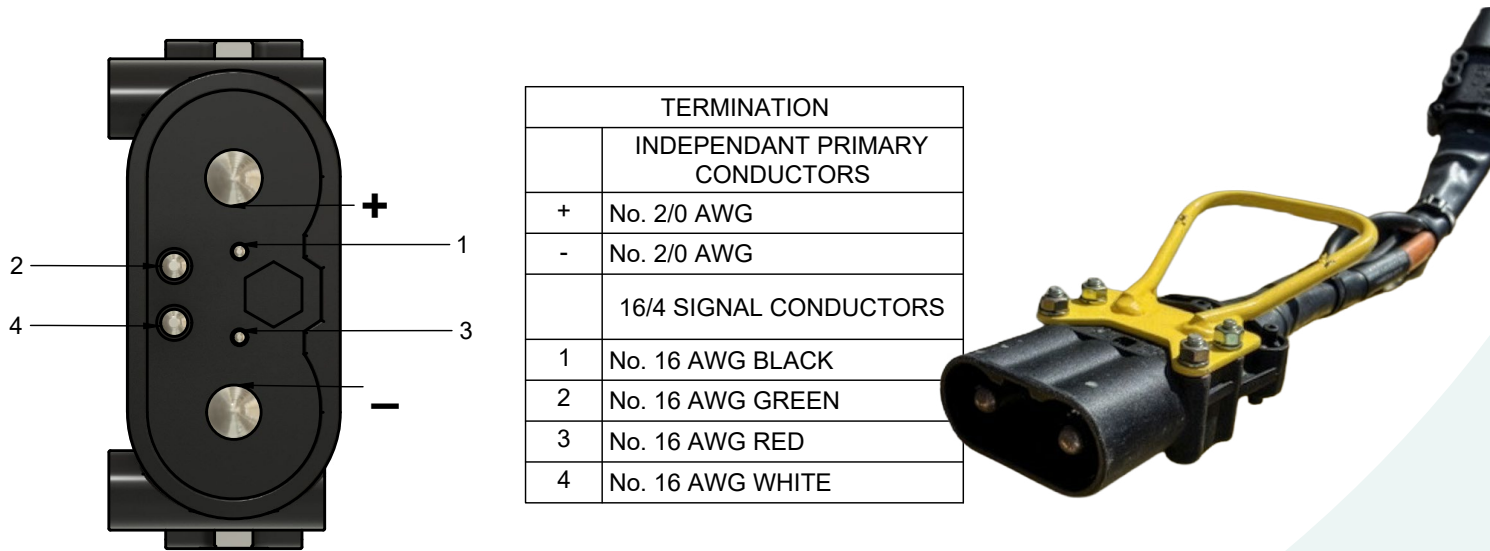

Figure 3: Euro Charger Cable Diagram. Source: Port of Portland / Averest
- Euro Connector charging plugs (see **Figure 3**) must be used to be compatible with PosiCharge model DVS400.